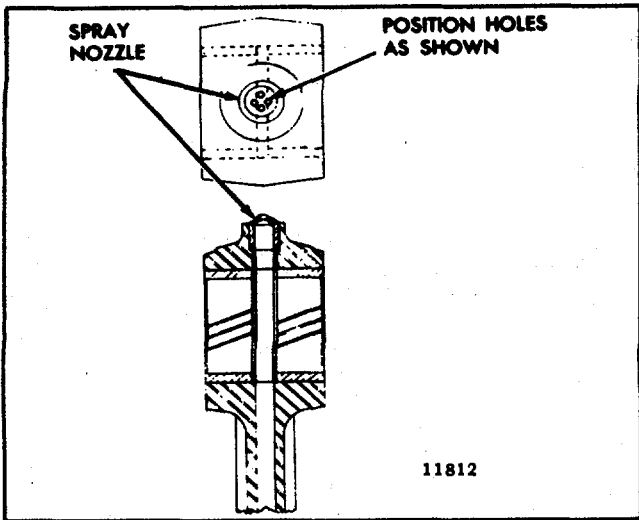

FIG. 8 Position of Spray Nozzle Holes
1. Start the new spray nozzle, with the holes positioned as shown in Fig. 8, straight into the counterbore in the connecting rod.